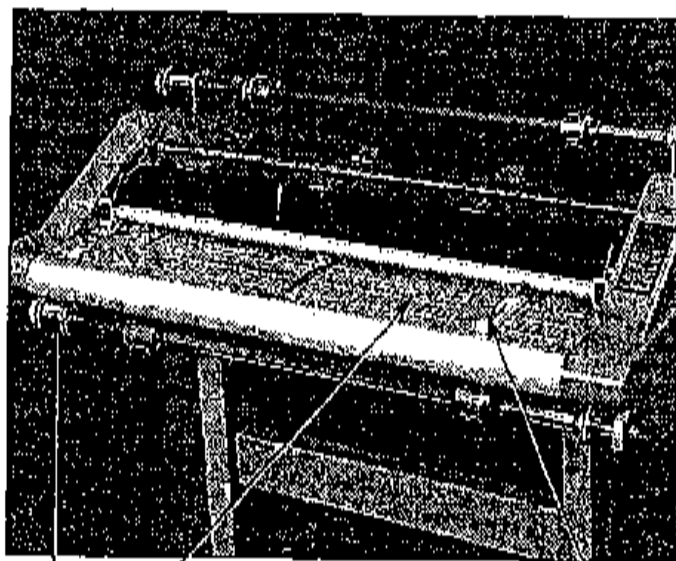

Fig. 3
D. FEED TABLE: The Feed Table, Figure 3, is used to position items for lamination. The laminator will operate only when the Feed Table and Feed Table Latch are properly installed. The table cannot be removed without retracting the latch to the right while lifting the table upwards and away from the laminator.
E. TABLE INTERLOCK LATCH: Used to lock the Feed Table into position and activate an interlock switch. The interlock latch is located on the left underside of the Feed Table, (Figure 3). The laminator will not operate when the table is removed and/or the interlock latch is retracted.
F. FEED GUIDES: The Feed Guides, Figure 3, permit alignment of the item(s) to be laminated. To position the adjustable guides, loosen the knob on the top of the guide(s), slide them to the desired position and tighten the knobs to secure the Feed Guide(s) in place. The Feed Guides are used to keep longer items straight. The Center Feed Guide may also be used to feed smaller items side by side by positioning the guide in the center of the Feed Table and placing smaller items against each side of the guide as they are being introduced into the nip rollers.